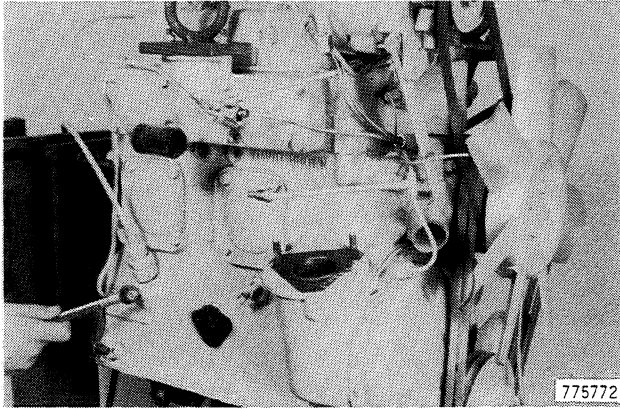

Figure 26
1. Loosen the lock nut on the retaining screw for the tachometer drive, Figure 26.